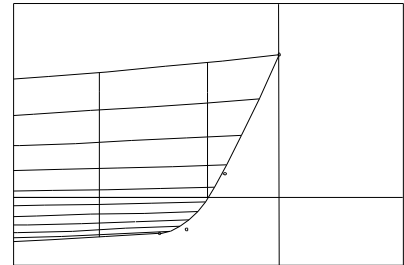

Fig. 8
- 6 **Release the mouse button**. The area you picked is now enlarged to fill the screen (Fig. 8).